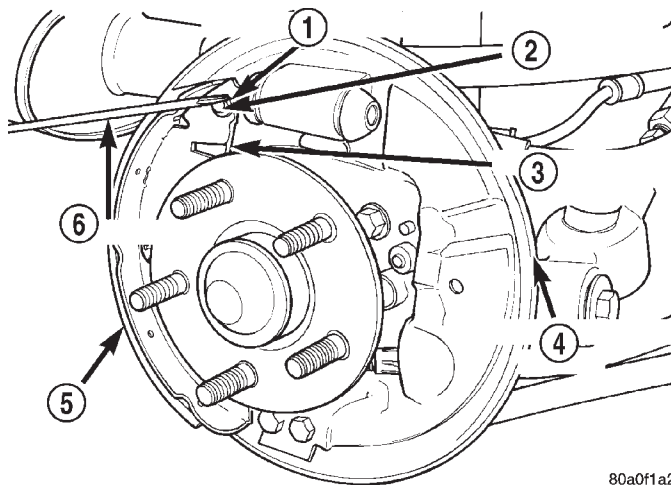

Fig. 108 Park Brake Lever Retaining Clip
(10) Remove the retaining clip (Fig. 108) holding the park brake actuating lever to the trailing brake shoe.